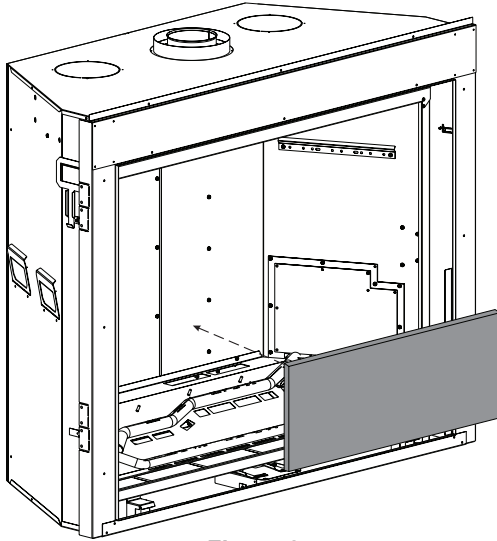

Figure 2
1. Place LINER REAR - BOTTOM on the back of the firebox and hold with one hand. **See Figure 2.**